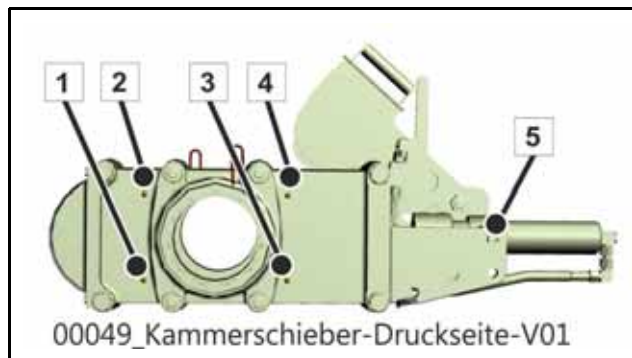
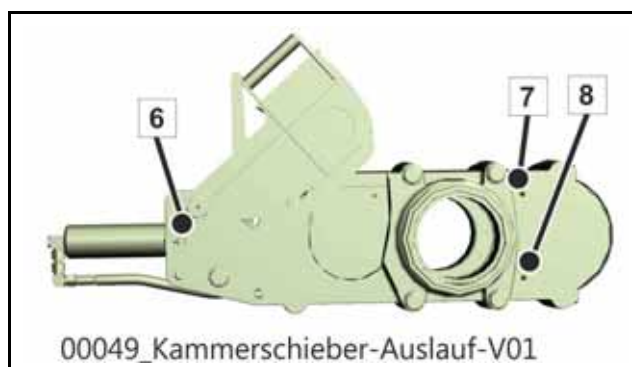

Fig. 517
Fig. 518
- Lubricate all grease nipples (pos. 1-8) (**Fig. 517**) (**Fig. 518**) on the chamber valve.